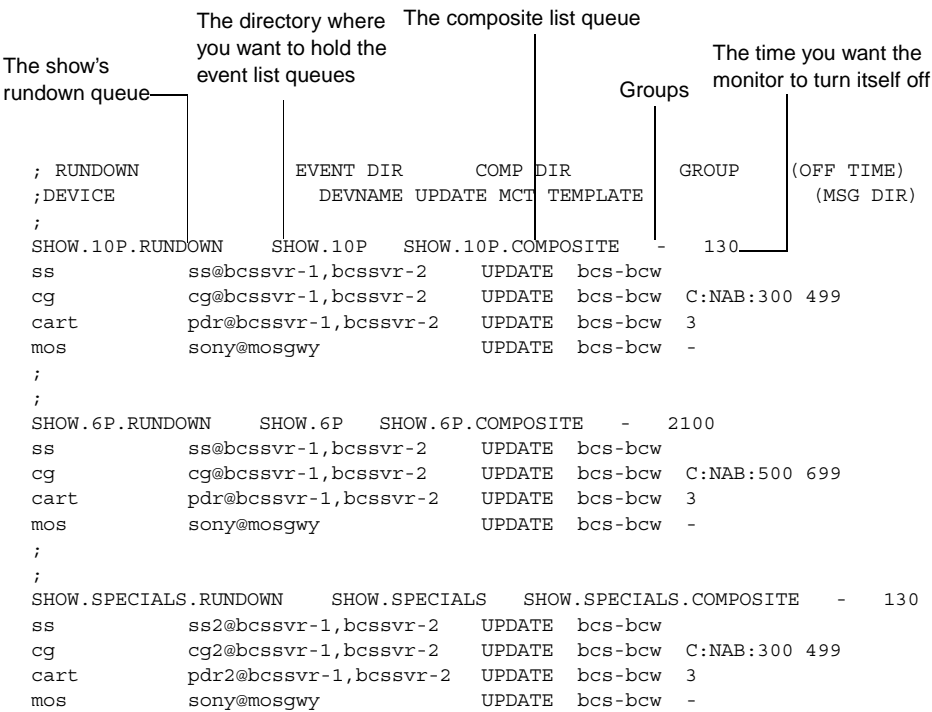

Figure 3 Sample Entry Header
- As shown in Figure 3, the entry header specifies the following information for each show: